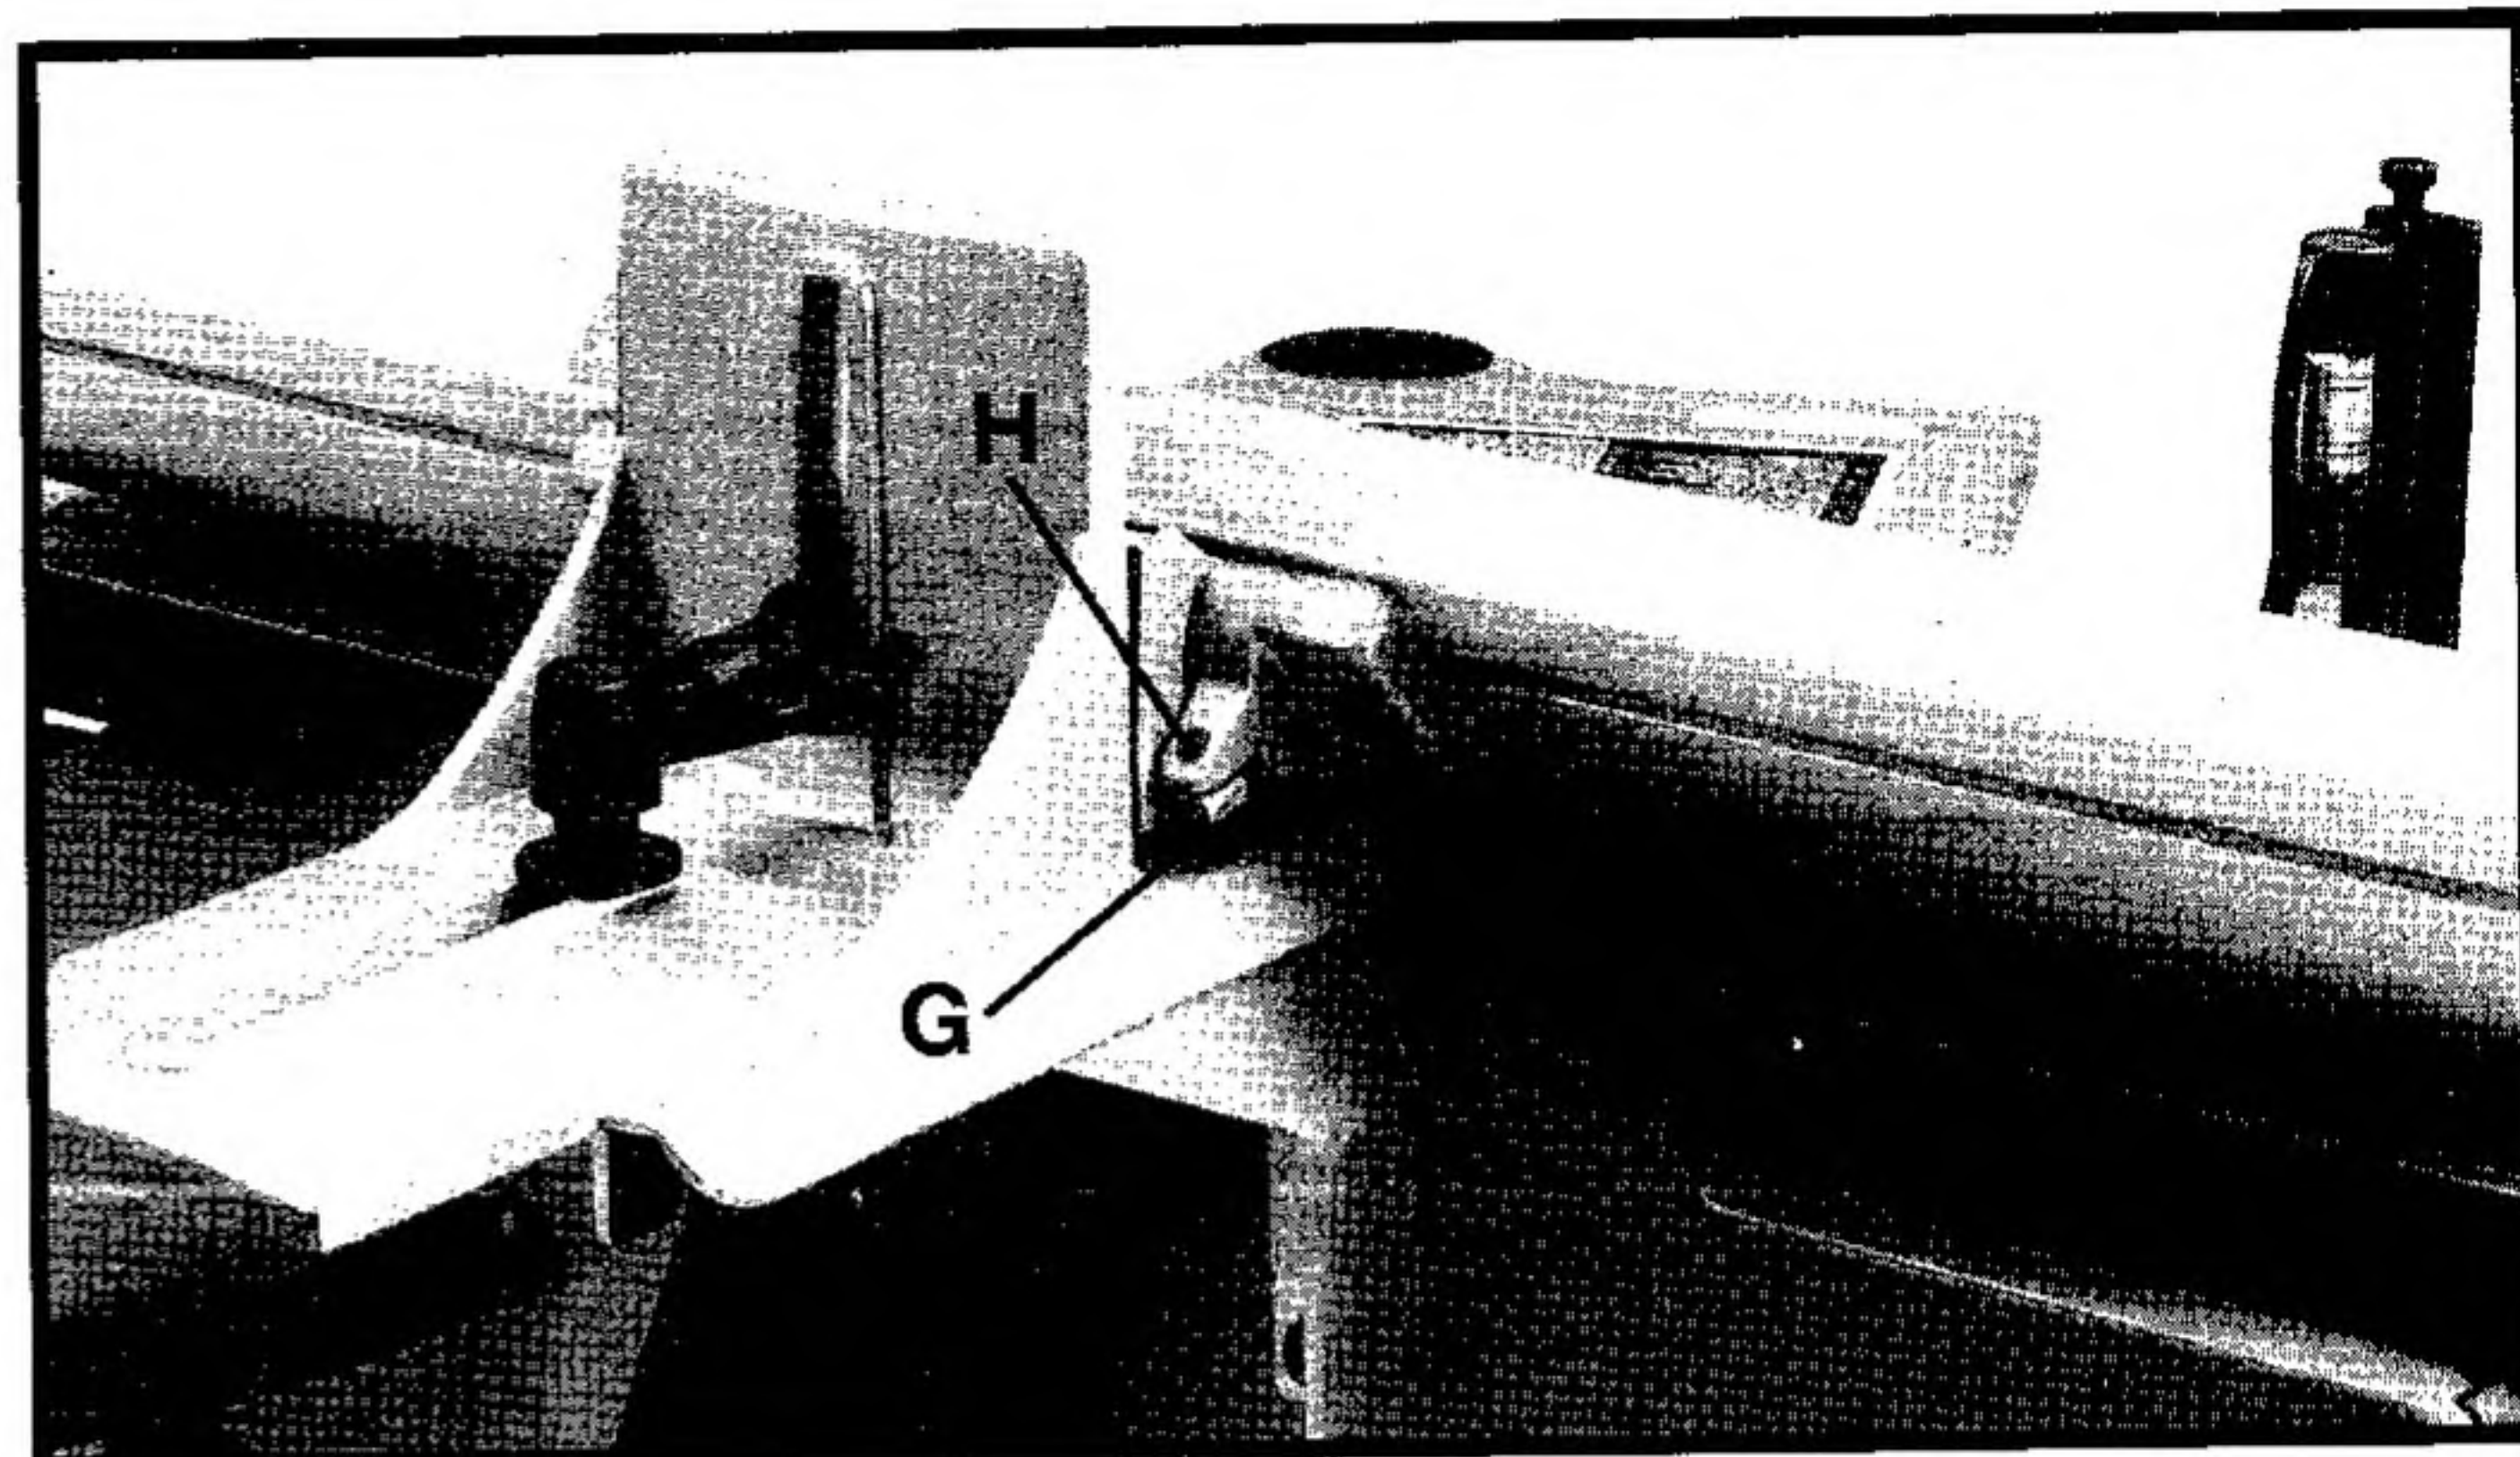

Fig. 29
7. Using supplied hex wrench (No. 10, Fig. 4A), turn set screw (H) Fig. 29, until it contacts stop (G).